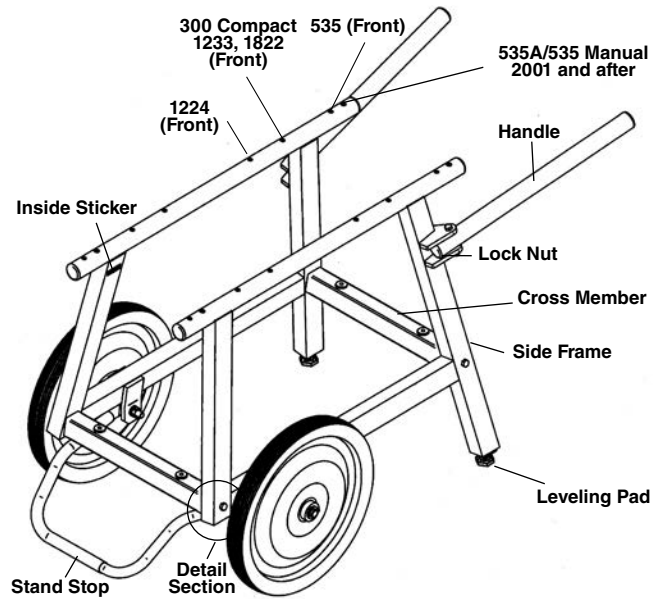
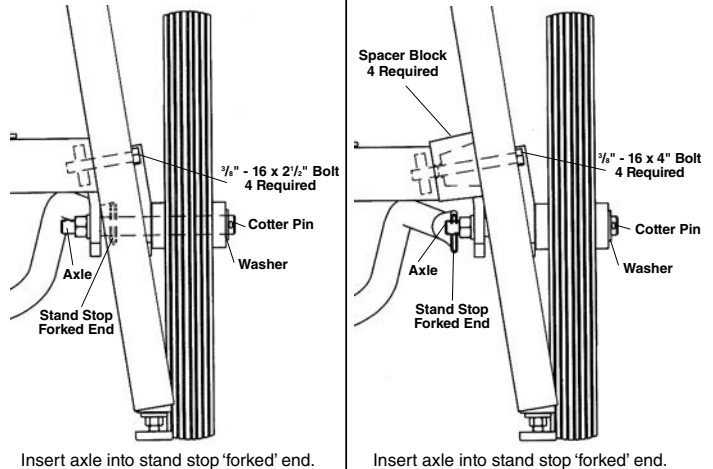

Figure 2 – Stand Parts (200A Stand shown)
Figure 3 – Stand Width (Detail Section from Figure 2)
2. Assemble the stand, leaving the fasteners hand tight. Make sure the "Inside" decals are towards the inside of the stand (see Figure 2). For the Wide Stand width, use the spacers and 4" long bolts. For the 150A and 200A, make sure that the axles are in the forked ends of the stand stop (see Figure 3).
4. Carefully place the threading machine on the stand. For 150A and 200A, place the threading machines with carriage toward the handles (see Figure 4). Align the mounting holes in the threading machine base with the appropriate holes in the stand, as shown in Figure 2, for proper balance. Securely attach machine to stand.